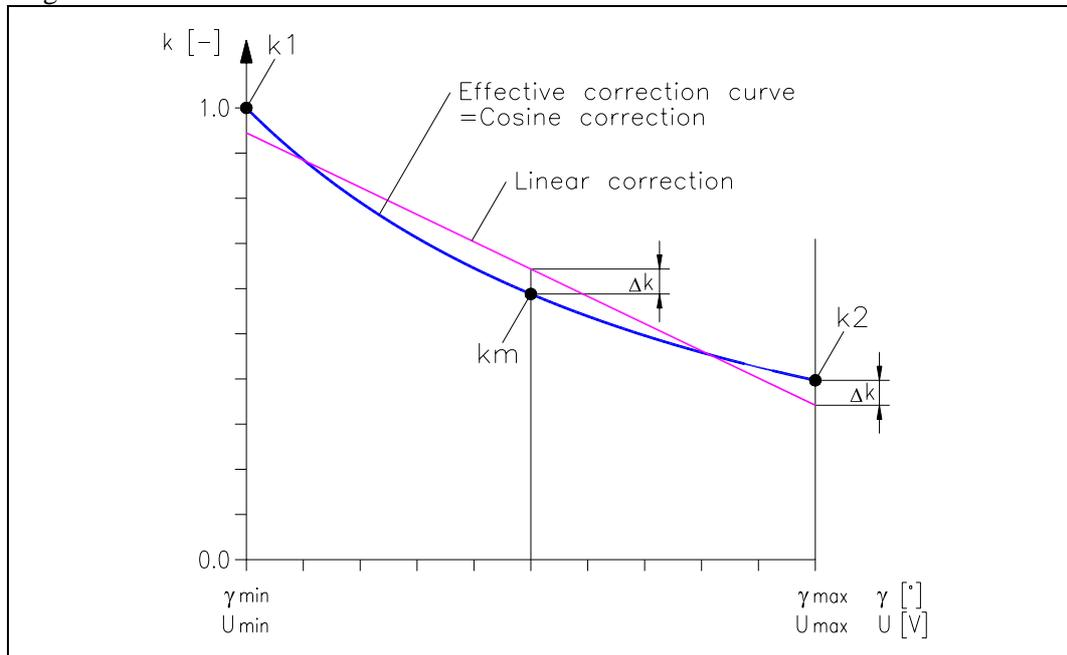

fig. 14: Correction curves for gain factor
- Check the voltage signal of the distance sensor (should be approx. 0...3V). Proceed for parameter function *Cal. gain cos 1*; the correction k_1 (ref. to fig. 14) will be saved.
- Check the voltage signal of the distance sensor (should be approx. 4...6V). Proceed for parameter function *Cal. gain cos 2*; the correction k_m (ref. to fig. 14) will be saved.
- Check the voltage signal of the distance sensor (should be approx. 7...10V). Proceed for parameter function *Cal. gain cos 3*; the correction k_2 (ref. to fig. 14) will be saved.
If the three points k_1 , k_m , k_2 can't be reached during simulating setup, a linear correction can be calculated. A straight line is centered to the effective correction curve by setting the parameters *Correction at 0V* and *Correction at 10V* to appropriate values (fig. 14). However, this procedure will cause a certain error. The maximum error e_{max} appears at the maximum wrap angle (γ_{max}).